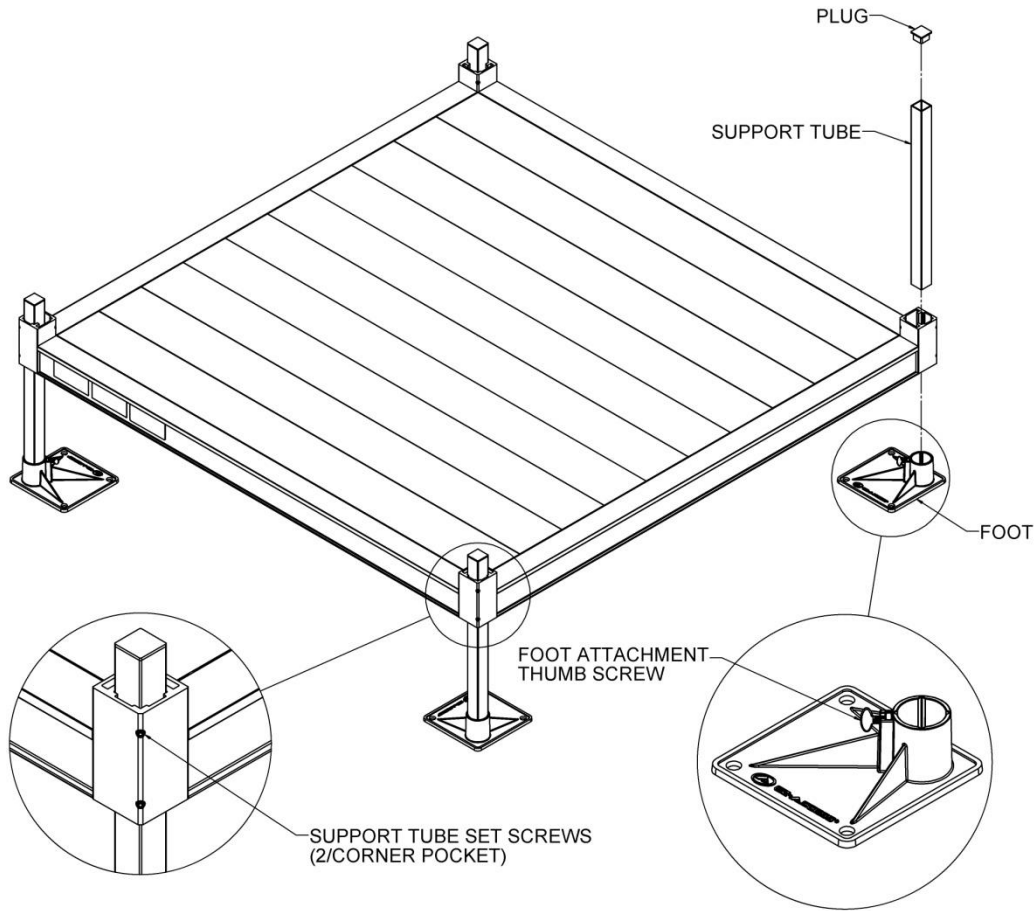

FIG. 2.4
- 2.2.2. Tip the platform on its side. Have one person support the platform while the other person slides the support tubes into the four platform corner pockets. Insert plugs into the top of the support tubes as shown. Adjust the support tubes to the approximate height needed (FIG.2.4).
- 2.2.5. Lift each corner of the platform and install a base foot on each support tube oriented so that the foot extends under the platform as shown in FIG. 2.4. Make sure the feet are fully engaged on the tubes and tighten the thumb screw on each foot securely. **NOTE:** If installing on soft soil it may be necessary to set the base foot on a concrete pad.